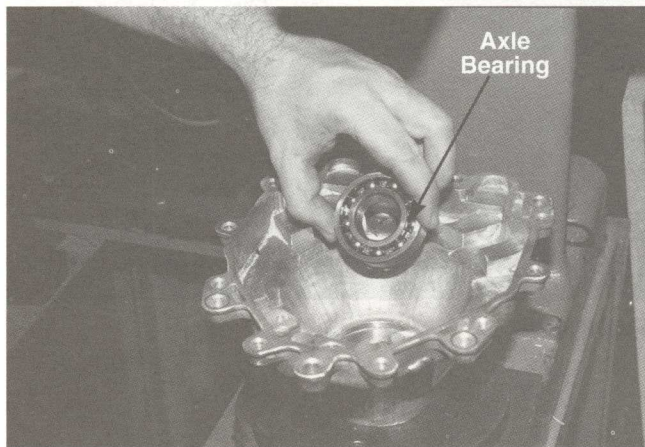

FIGURE 18.
18. Install the bearing. Set it into the housing so it goes down below the snap ring groove. See figure 18.